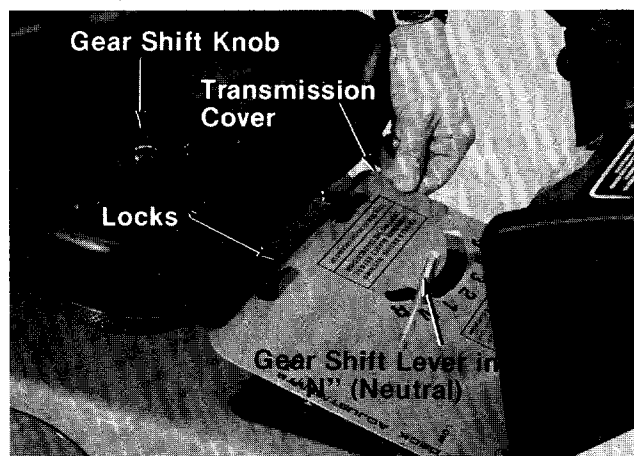

FIGURE 12.
1. Place the shift lever in the "N" (neutral) position. Remove the gear shift lever knob. See figure 12.
2. Push down and turn the locks on the transmission cover. See figure 12.
3. Lift out the transmission cover. See figure 12.